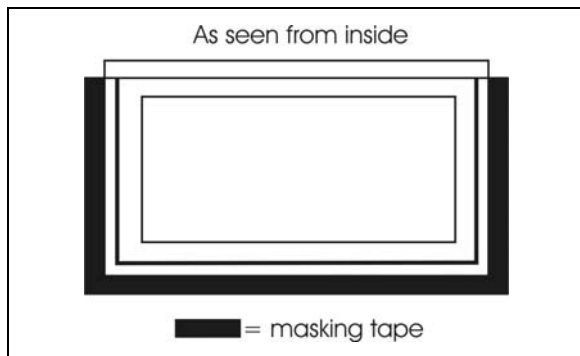

FIGURE 68: MASKING TAPE APPLICATION
4. Place masking tape on the inside of the window pane as per FIGURE 68 to protect it from smudge;